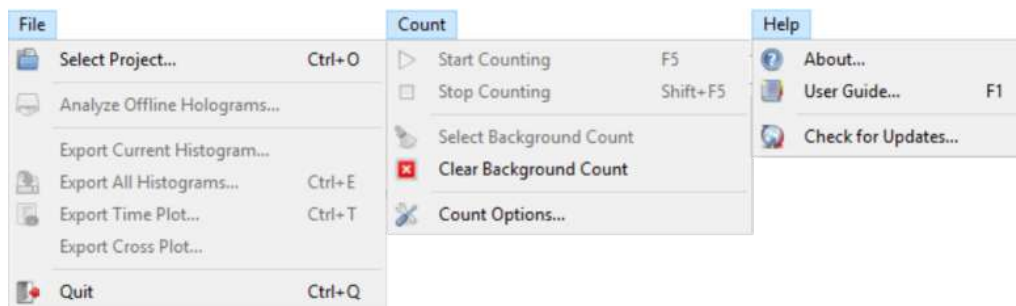

Figure 7: Main menu, showing the options under each heading
For ease of use, the details of each Section listed above will be guided with Figures of both the Main Menu (Figure 7). The following sections briefly introduce the Home Screen of Swordfish to give users a quick overview of its layout.
Most of the Settings and functionality of Swordfish is located in the **Main Menu** (see Figure 7). The following gives a brief explanation of each option in the Main Menu (for more details regarding these options, see the Sections referenced).
- For the Desktop, select the Preset Option for the Desktop: Count-> Count Options-> Optical Path ->Preset (see Main Menu Figure 7 for location). To create a custom preset, press the **Add preset (+)** button, and give the new preset a name. Any modifications to the preset will be stored when **OK** button is pressed. To delete a custom preset, press the **Remove preset (-)** button. The pixel size and laser wavelength settings should not need to be changed unless you are using a third-party microscope.